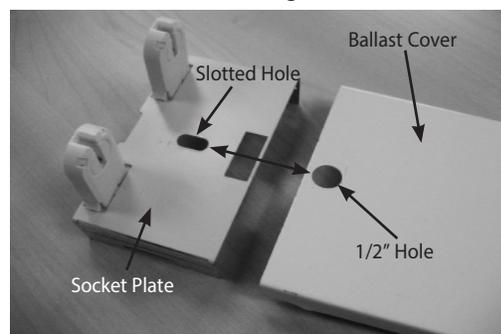

Figure 5. Align the slotted hole on the left-side Socket Plate to the 1/2" hole on the Ballast Cover.
13. Install the two (2) new Ballast Covers or the "White" or "Specular" Reflectors. Installation of each Ballast Cover or Reflector requires two (2) 1/4 Turn Retainer Clips. At each end of the Ballast Cover or Reflector there is a 1/2" (12.7mm) round hole. Start at the one side of the fixture housing, place the 1/2" hole on the Ballast Cover over the slotted hole on the end socket plate, insert one (1) 1/4 Turn Retainer Clip through the Ballast Cover and socket plate holes, then rotate the Retainer Clip one quarter turn to attach the Ballast Cover or Reflector. See Figures 5 and 5a. Follow the same procedure on the opposite end of the Ballast Cover or Reflector.